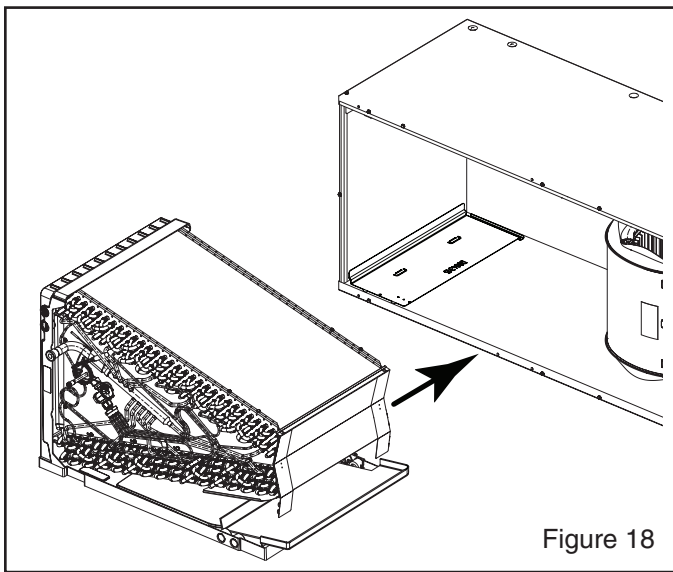

Figure 18
5. Attach the horizontal drain pan with extension to the replacement coil and slide the assembly into the unit. See Figure 18.